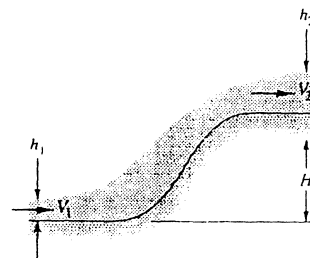

Fig. P3.178
**3.178** For the water channel flow of Fig. P3.178,  $h_1 = 0.45$  ft,  $H = 2.2$  ft, and  $V_1 = 16$  ft/s. Neglecting losses and assuming uniform flow at sections 1 and 2, find the downstream depth  $h_2$ . Show that *two* realistic solutions are possible.